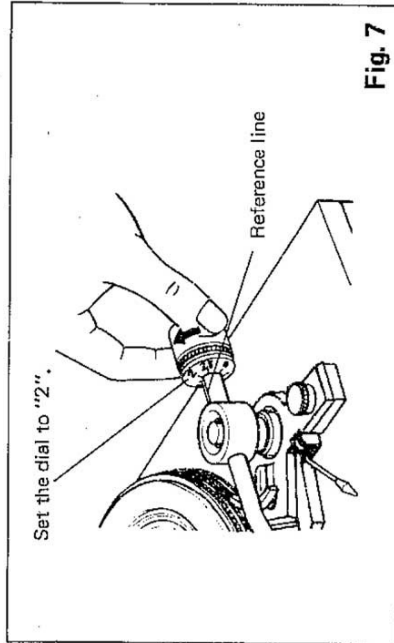

Fig. 7
- 2) Turn the counterweight clockwise as seen from the rear (in the arrow-marked direction) until the "2" score on the dial meets the reference line on the tonearm. (Fig. 7) When setting the stylus pressure, squeeze the counterweight with thumb and forefinger, as in Fig. 7, and turn it. Do not touch the dial, which rotates with the counterweight.